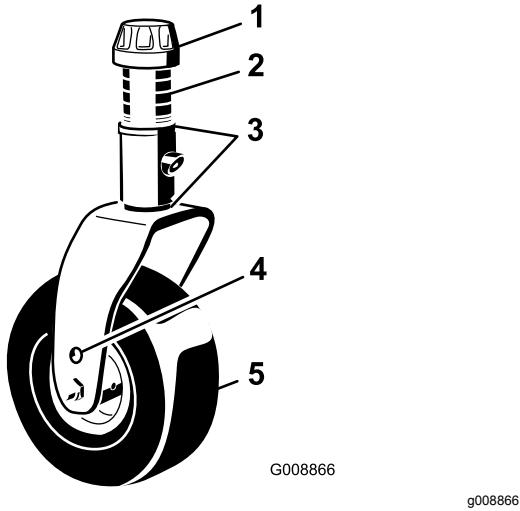
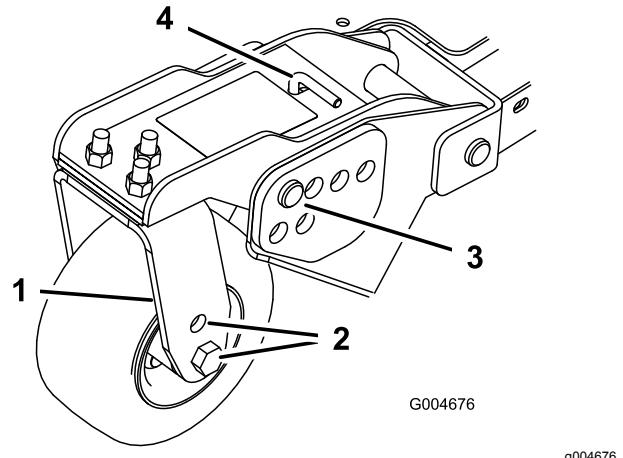
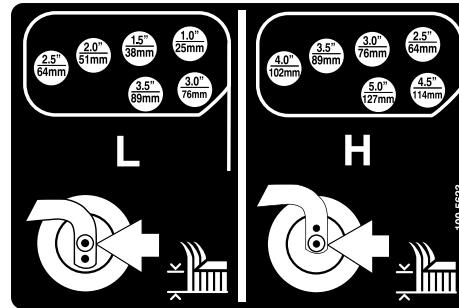

Figure 23
Figure 25
Figure 26
1. Position the caster-wheel axles in the same holes in all of the caster forks (Figure 23 and Figure 25).
2. Remove the tensioning cap from the spindle shaft and slide the spindle out of the caster arm (Figure 23).
5. Remove the hairpin cotter and clevis pins from the caster-pivot arms (Figure 25).
6. Rotate the tension rod to raise or lower the pivot arm until the holes are aligned with the selected height-of-cut bracket holes in the mower-deck frame (Figure 25 and Figure 26).